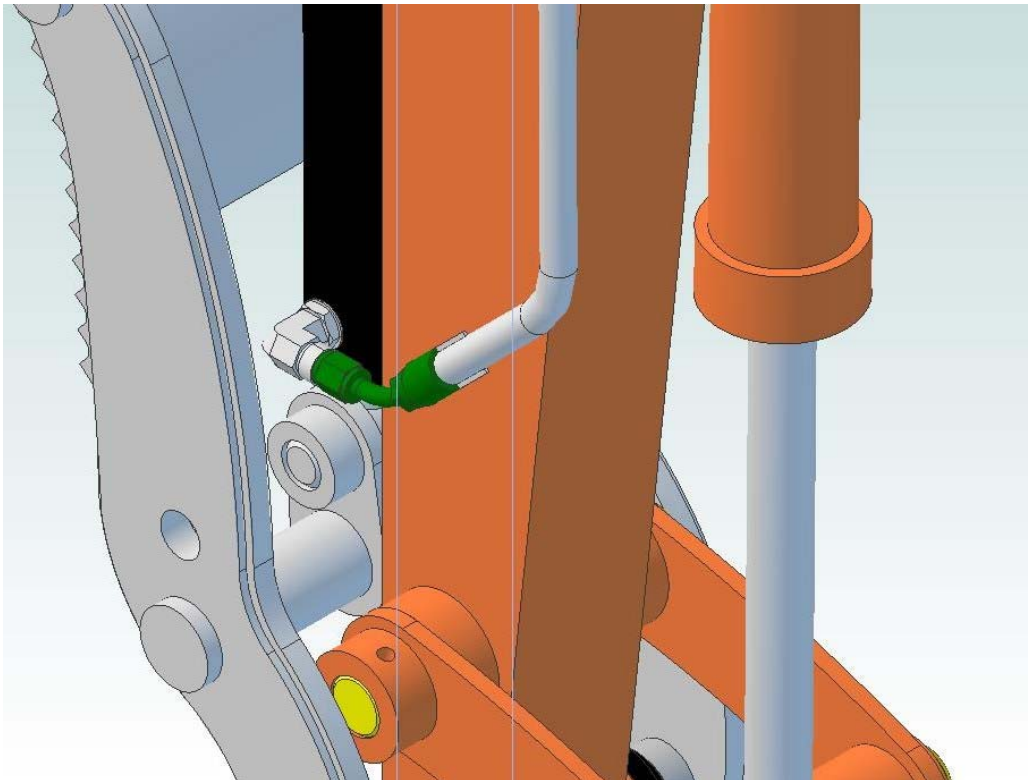

Figure 8 Green Hydraulic Line Connection at Hydraulic Cylinder.
- Locate the 148” long hydraulic line color coded green. One end of the line will have a 45 degree hose end on it. Connect this end of the line to the LHS of the Hydraulic Cylinder as Show in Figure 8.